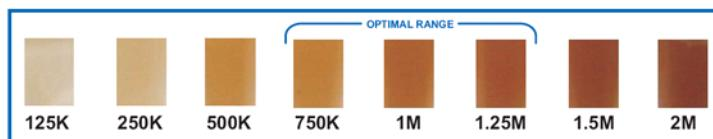
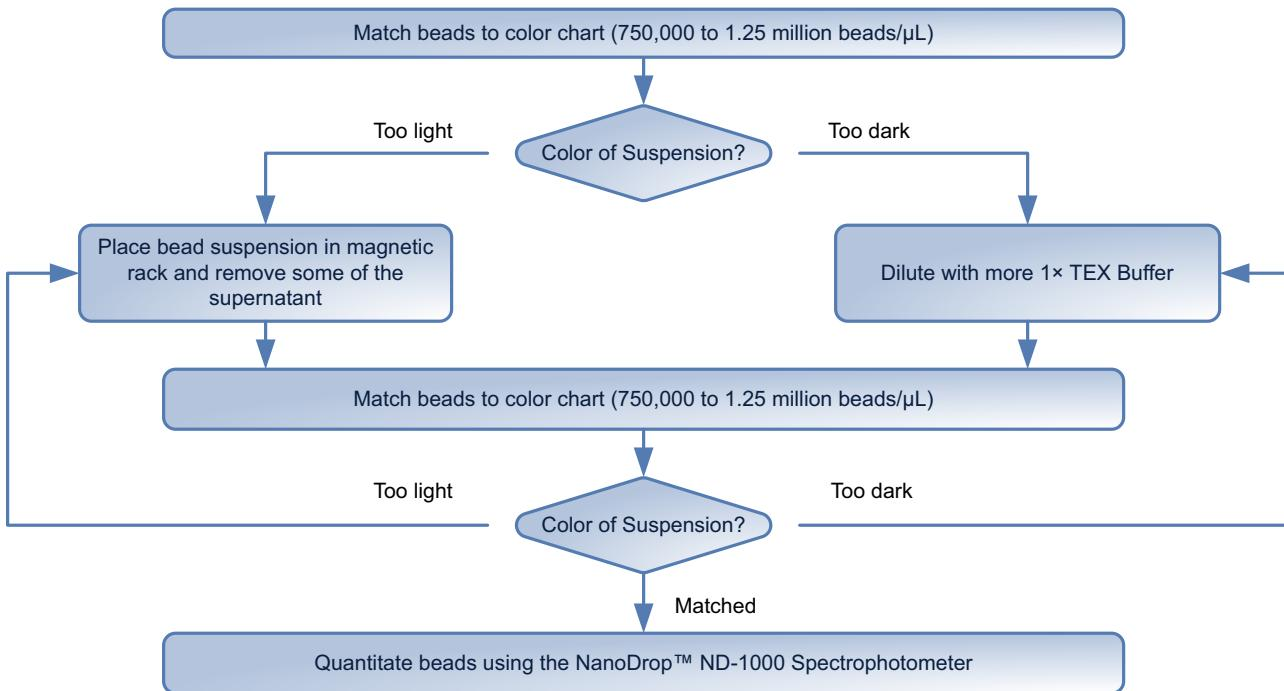

Figure 8 The SOLiD™ Bead Concentration Chart. For best results, use the Applied Biosystems SOLiD™ Bead Concentration Chart (PN 4415131), supplied separately.
Figure 9 SOLiD™ Bead Concentration Chart workflow.
2. If a WFA run has already been performed, use the results from the WFA report to estimate the bead concentration and proceed to step 5; otherwise, use the SOLiD™ Bead Concentration Chart (PN 4415131) to estimate the bead concentration (see Figure 8).
3. Adjust the volume of beads so that the color of the bead solution matches a color in the optimal range (750,000 beads/ μ L to 1.25 million beads/ μ L; see Figure 8 and Figure 9).